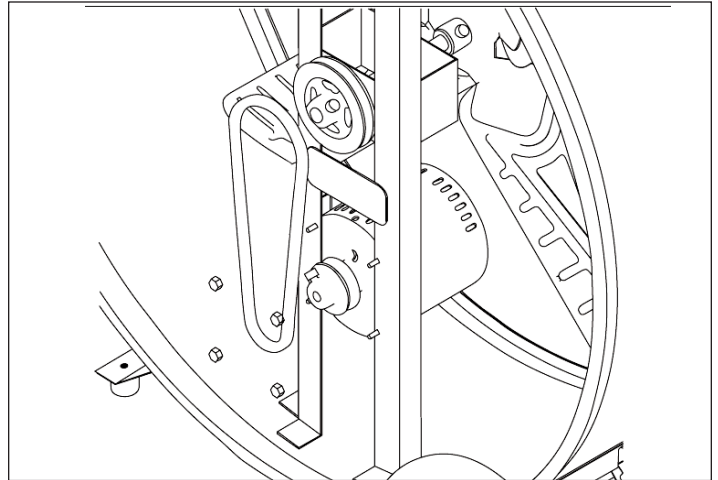

figure 3: Adjusting Fan Belt
3. Remove belt to replace, or adjust motor to tighten belt (figure 3).